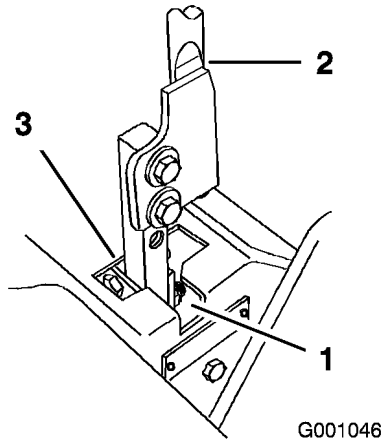

Figure 69
5. Move the lever to the neutral position but **not locked** (Figure 69).
6. Pull the lever back until the clevis pin (on arm below pivot shaft) contacts the end of the slot (just beginning to put pressure on the spring) (Figure 69).
7. Check where the control lever is relative to notch in console (Figure 69). It should be centered allowing lever to pivot outward to the neutral lock position.